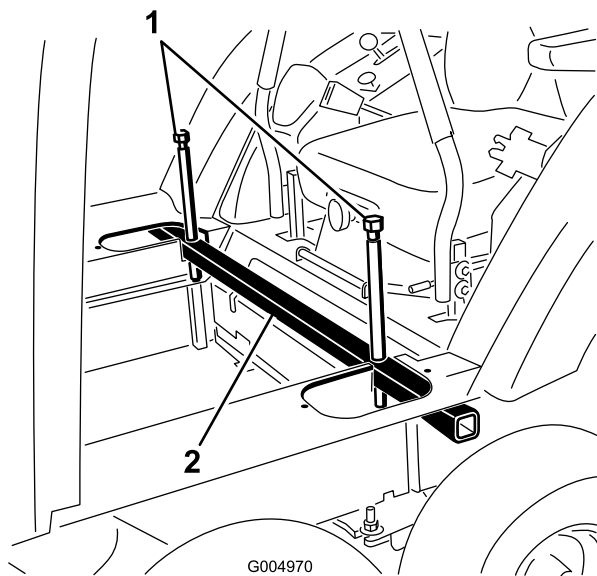

Figure 120
31. Loosen the jacking bolts and remove the cab jack tube from the cutouts in the cab floor (Figure 120).